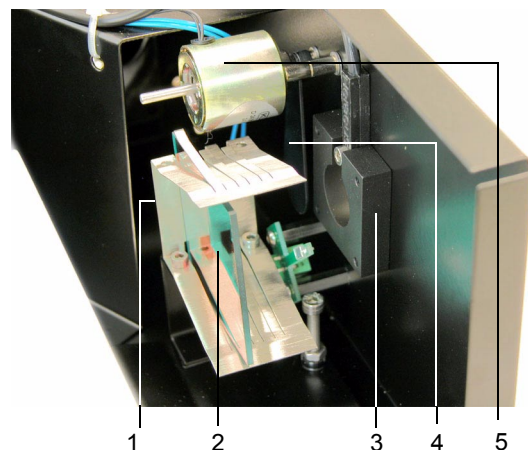

Fig. 7: IR Cut Filter and Shutter Blade
Fig. 7: The bright field illumination set up requires homogeneous light with a reasonable intensity and a limited spectral distribution. Therefore, a filter (2) is inserted into slots in a filter holder (1) between the HQI lamp and the fiber connector (3). The filter holder (1) has got three slots, with slot no. 1 being closest to the HQI lamp and slot no. 3 closest to the fiber connector (3).
Fig. 7: To overcome this drawback, a mechanical shutter is integrated inside the illumination module directly in front of the fiber connector (3). The mechanical shutter consists of a rotary solenoid (5) and a shutter blade (4). You can directly control the mechanical shutter with CAN bus messages: